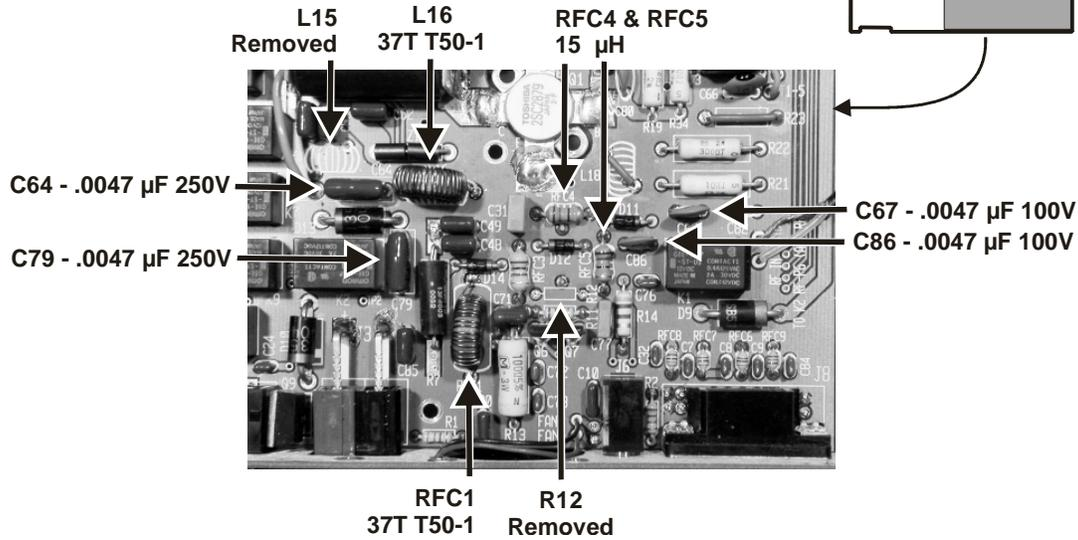

Figure 5. T/R Switch Components.
Refer to Figure 5 for the locations of the parts in the following steps.
- Replace C79 with a .0047 μ F (472) 250V or greater voltage capacitor, LS 0.4". The capacitor supplied may be a different style than that shown in Figure 5.
Install the new C64, a .0047 μF (472) 250V or greater voltage capacitor, LS 0.4”, next to L16. The capacitor supplied may be a different style than that shown in Figure 5. Solder and trim the leads flush with the PCB.